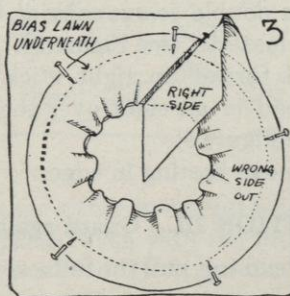

FIG. 3.
- (1) Fold back the end that you have been working with so that the folded edge just meets the first end which was pinned to the steel wire (see Figure 3, page 137).
- (2) Put a pin in the folded edge only, being careful to keep it slanting in the direction of the cut end which is already pinned in place. Also be careful not to pin through the lawn on the steel wire (see Figure 3, page 137). **This pin is the guide for the length of the bias strip.**
- (3) Unpin entire strip but do not remove the pin that marks the length of the bias strip.
- (4) Lay bias strip on the table **wrong side up**.